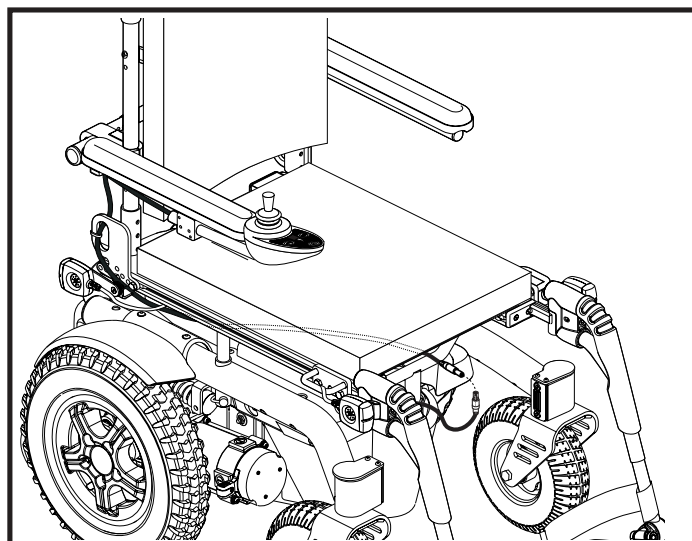

Figure 10. Controller Cable Routing
2. Route the controller cable to the front of the power base, ensuring the cable cannot be pinched in the seat hinge. See figure 10.
6. Route the controller cable to the front of the power base and reconnect the controller. See figure 10.